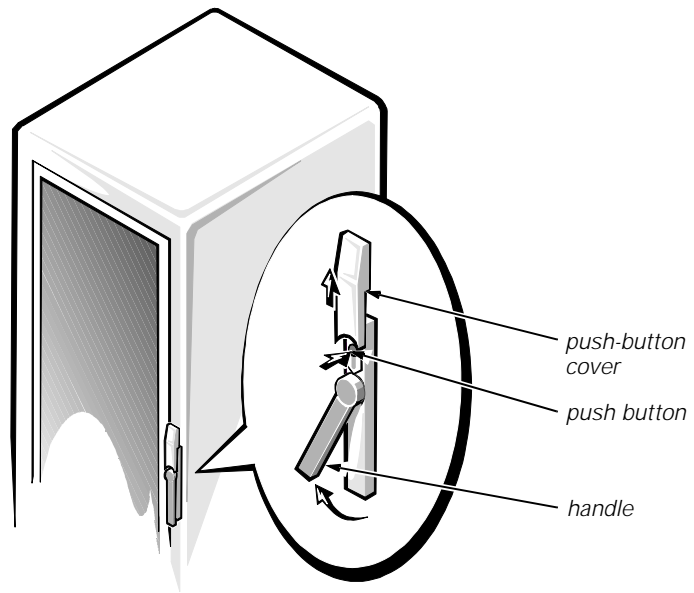

Figure 10. Opening the 42-U Rack Door
1. Open the latch on the front door (see Figure 10).
3. Close the door latch by rotating the handle counterclockwise until it stops, push in the handle until it locks in position, and then slide the button cover down over the push button (see Figure 10).